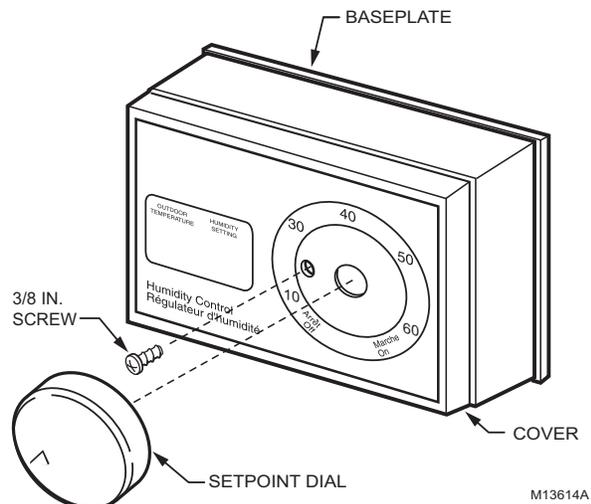

Fig. 48. Assembling Humidistat Cover.
13. Secure the Humidistat Cover to the Control Assembly using one 3/8 in. screw. See Fig. 48